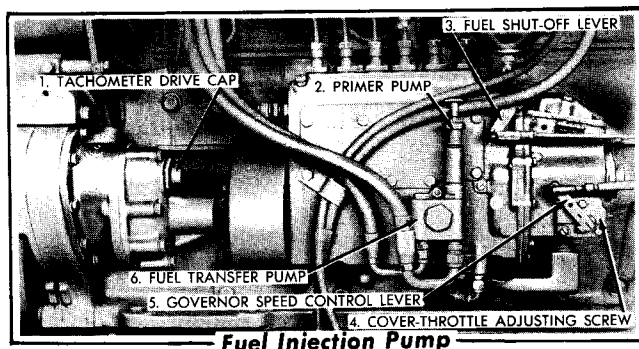

FIG. 42
After having replaced the fuel filter elements or disconnected the pump to nozzle fuel lines, it may become necessary to bleed the air from the system. To bleed the pump sump, disconnect the fuel line from the over-flow valve and actuate the hand primer (Fig. 42) until fuel oil flows freely from the overflow valve. Reconnect the fuel line to the overflow valve.
2. Remove cap from tachometer drive on engine accessory drive housing (Fig. 42).
2. Remove capscrew and cover (Fig. 42) over throttle adjusting screws.
- a. Hold fuel shut-off lever (Fig. 42) in off position (all the way forward) and crank engine with starter for 15 seconds. This will assure filling of filters